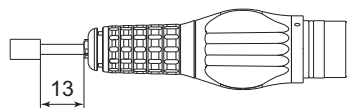

Fig. 1
- ① This Attachment is designed for hand use. Never install this Attachment or any hand tool on a machine such as a special purpose machine, NC lathe or mill.
- ② Do not touch the cutting tool while it is rotating. It is very dangerous.
- ③ Wear safety glasses, dust mask, and use a protective cover around the Spindle whenever the Spindle is rotating.
- ④ When installing a cutting tool, tighten the collet correctly and check again the collet before use. Do not over-tighten the collet. This may cause damage to the spindle.
- ⑤ Do not use grindstones with an outside diameter over $\phi 15\text{mm}$.
- ⑥ Do not exceed 13mm of overhang for mounted grindstones as shown in Fig. 1. If the overhang must exceed 13mm, reduce the motor speed in accordance with Table. 1.
- ⑦ Do not use bent, broken, chipped, out of round or sub-standard cutting tools as they may cause shatter or explode. The cutting tool with cracked, bended may cause some injury to operator. When using a new cutting tool, rotate it in a low speed and increase speed gradually for safety.
- ⑧ Always operate cutting tools within the cutting tool manufacturer's recommended speed limits. Use of a cutting tool higher than the manufacturer's recommended speed limits could cause damage to the spindle and injury to the operator.
- ⑨ Do not apply excessive force. This may cause tool slippage, tool damage, injury to the operator, loss of concentricity and precision.